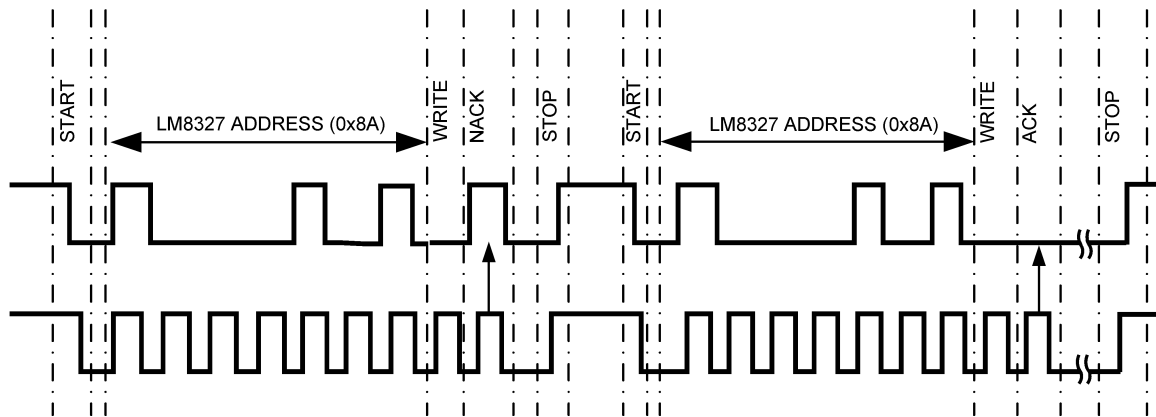

Figure 5. Host Starts Communication While LM8327 is in Sleep Mode
- In the timing diagram shown in Figure 5 the LM8327 resides in sleep mode. Since the LM8327 device can't acknowledge the slave address the host must generate a STOP condition followed by a second START condition.